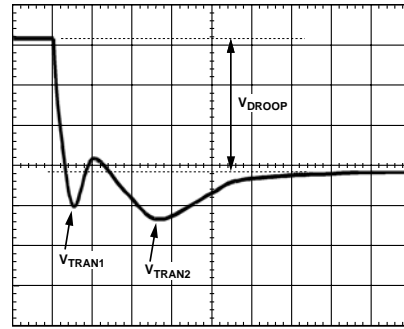
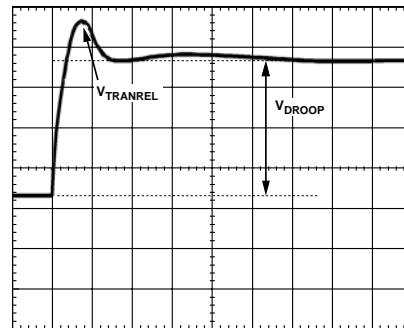

Figure 16. Transient Setting Waveform
Figure 17. Transient Setting Waveform
19. With dynamic load still set at maximum step size, expand scope time scale to see 2 $\mu\text{s}/\text{div}$ to 5 $\mu\text{s}/\text{div}$. The waveform may have two overshoots and one minor undershoot (see Figure 16). Here, V_{DROOP} is the final desired value.
21. For load release (see Figure 17), if V_{TRANREL} is larger than V_{TRAN1} (see Figure 16), there is not enough output capacitance. You will either need more capacitance or have to make the inductor values smaller. (If you change inductors, you will need to start the design over using the spreadsheet and this tuning procedure.)